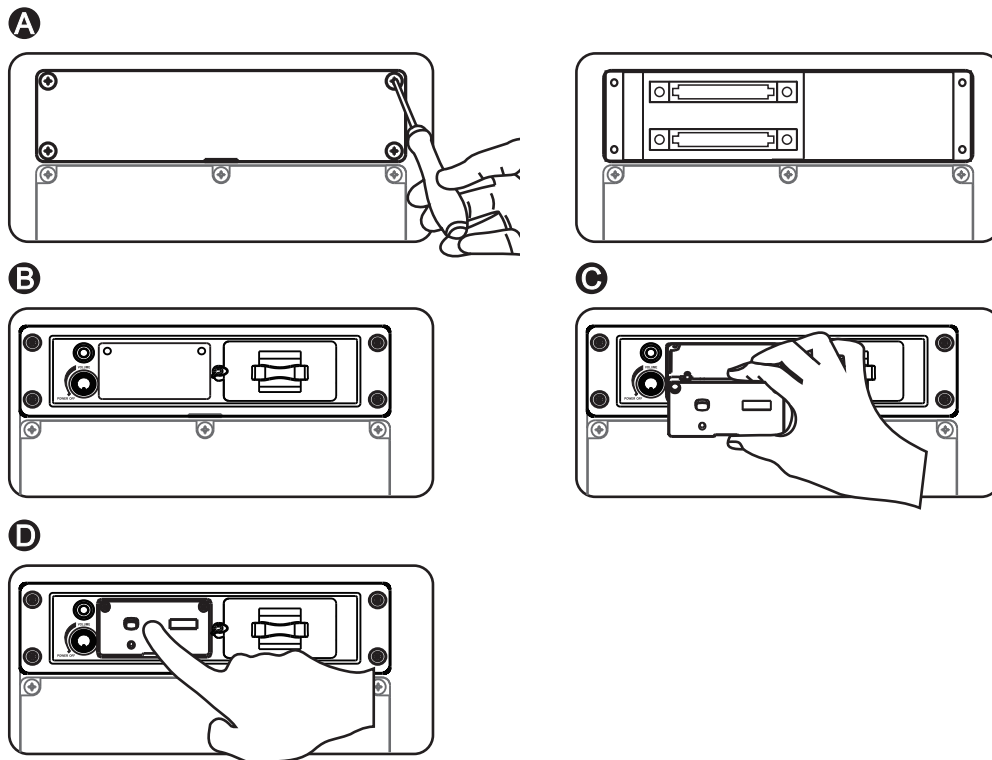

Fig. 10
1. Users have options to add wireless interlinking transmitter module in this slot. Fig. 10